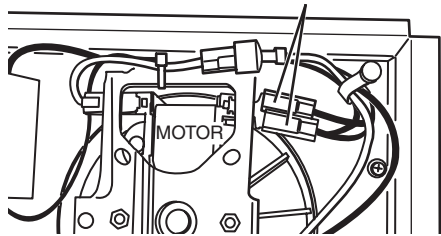

FIG. 10 - 120VAC TO 240VAC CONVERSION
(FIGS. 10, 11, 12)
1. **Conversion to half-wattage. (FIG. 10)**
2. **120 VAC to 240 VAC Conversion (FIGS. 10 & 11)**